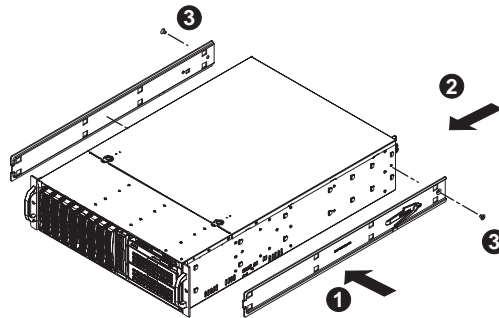

Figure 2-4 Installing the Inner Rail Extensions
1. Place the inner rail extensions on the side of the chassis aligning the hooks of the chassis with the rail extension holes. Make sure the extension faces "outward" just like the pre-attached inner rail (see Figure 2-4)